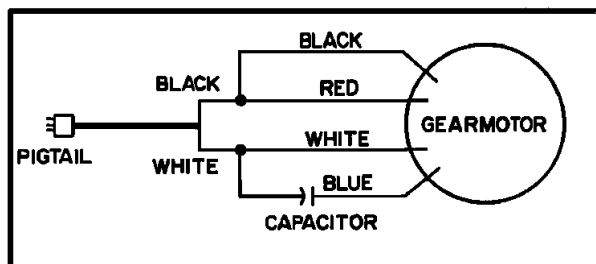

Figure 42 - Gearmotor Bench-Test Wiring Diagram
- 1 Align toggle gear arms (A & C) and drive bearing (B) so they are parallel with side of carriage plate. **Figures 42, 43.**